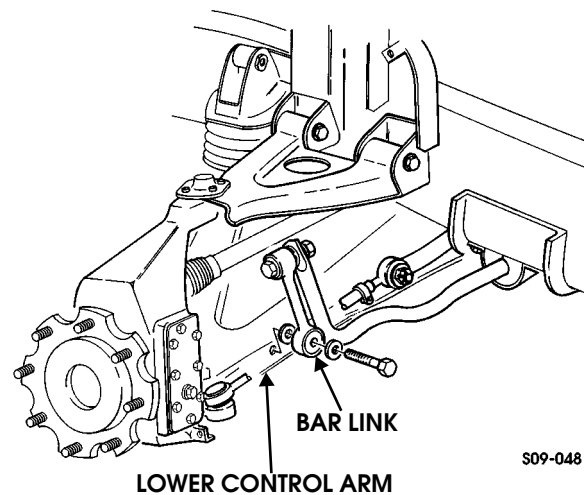

Figure 9-10: Bar Link Replacement
3. Remove bolt, two washers, and bar link (front only) from lower control arm (Figure 9-10).
7. Apply thread-locking compound to threads of bolt. Install bar link on lower control arm with two washers and bolt. Tighten bolt to 70 lb-ft (95 N•m) (Figure 9-10).